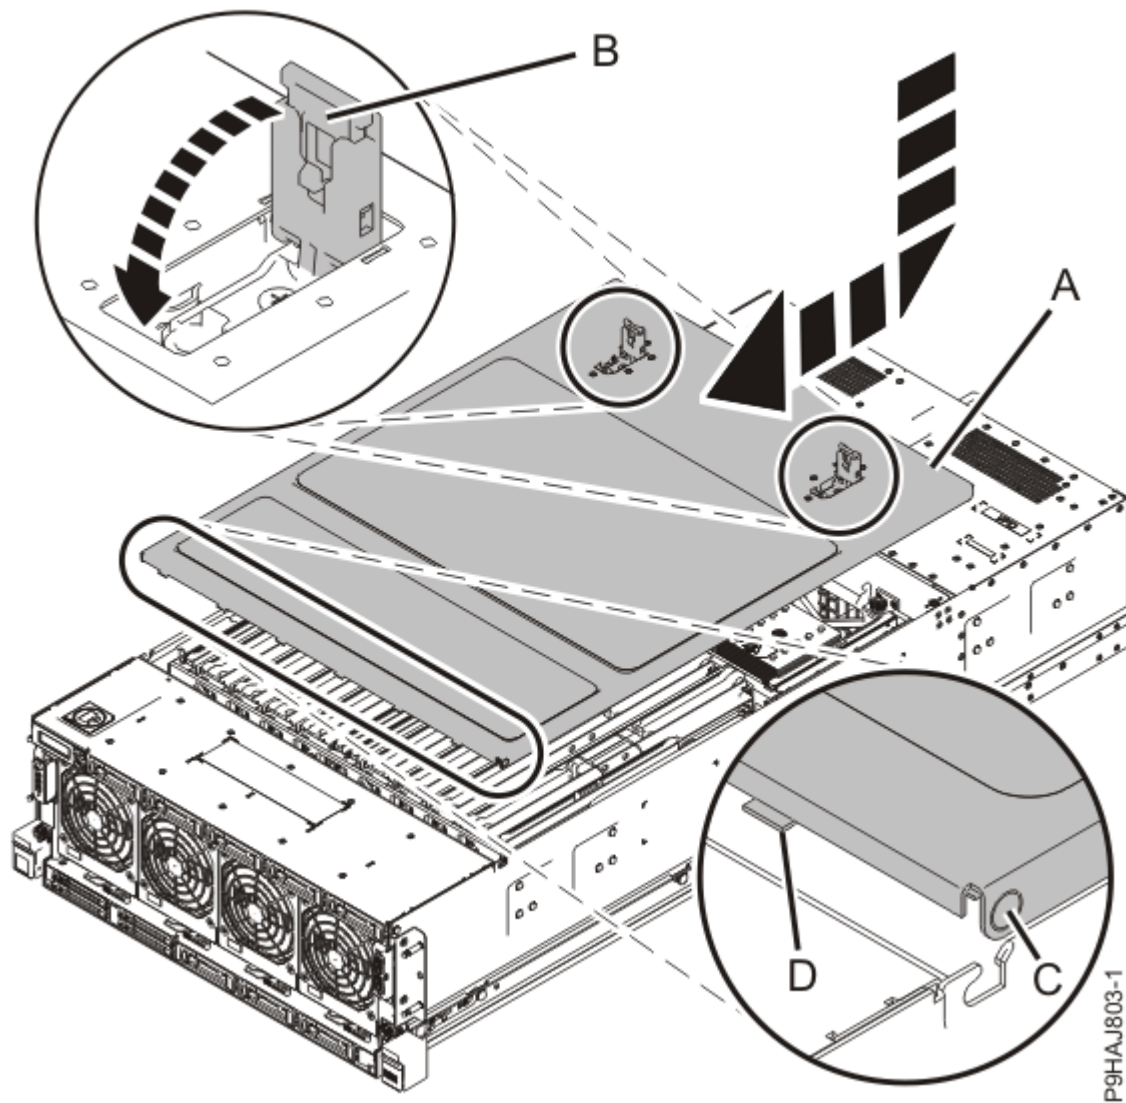

Figure 20: Installing the service access cover
- a) Slide the cover **(A)** onto the system unit as shown in Figure 20 on page 21.
- b) Close the release latches **(B)** by pushing it in the direction as shown in Figure 20 on page 21.